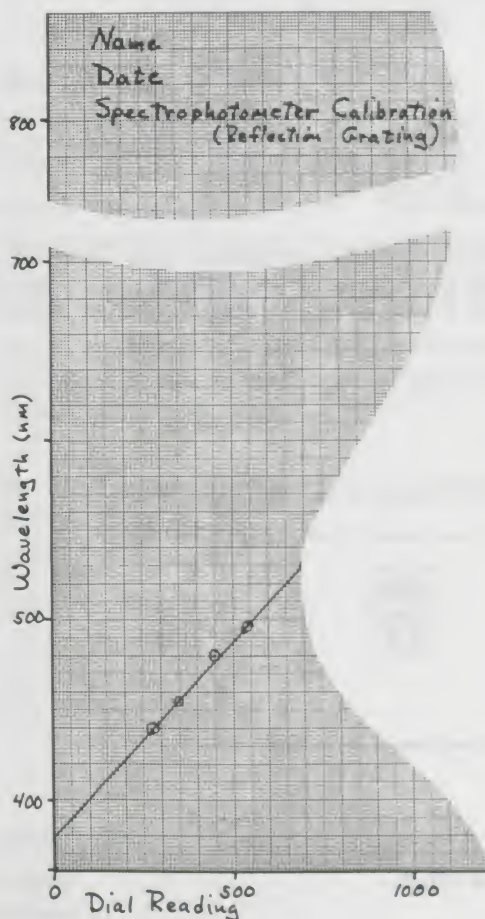

Figure 65.
- Label a piece of graph paper with Dial Readings on the horizontal axis and Wavelength in nanometers on the vertical axis. See Figure 65.